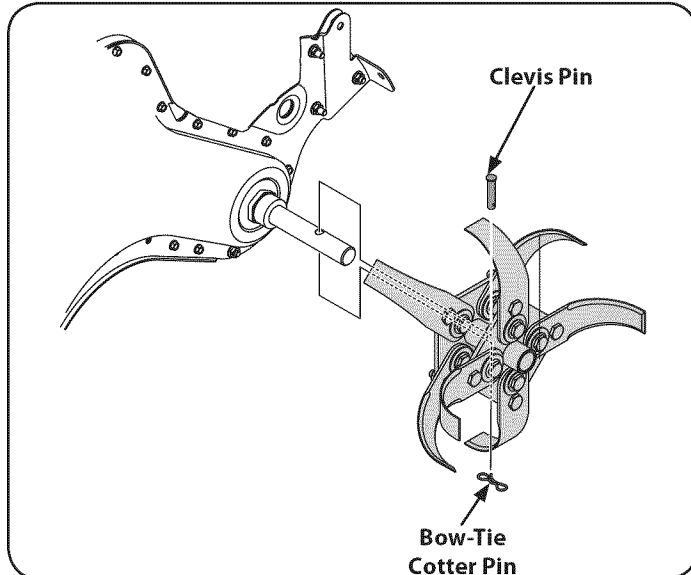

Figure 30
3. To remove a tine assembly, simply remove the bow-tie cotter pin securing the clevis pin. See Figure 30.